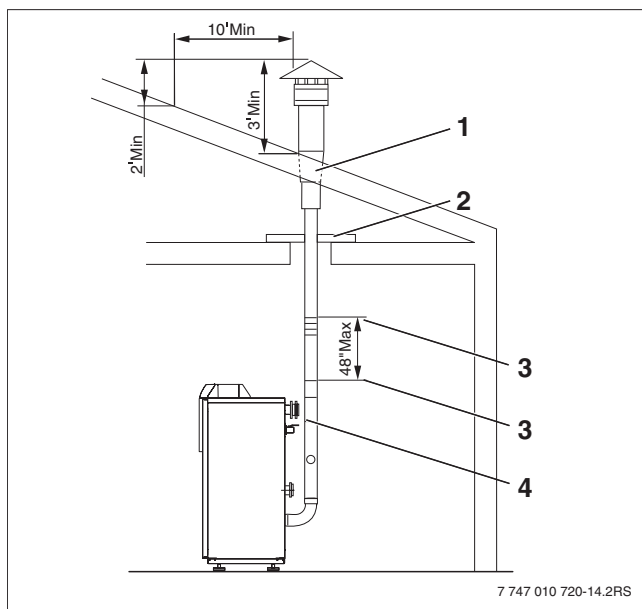

Fig. 9 Vertical flue system
- 1 Flue outlet (type of outlet depends on chosen manufacturer, e.g. 90° elbow or T-piece) See Fig. 9.